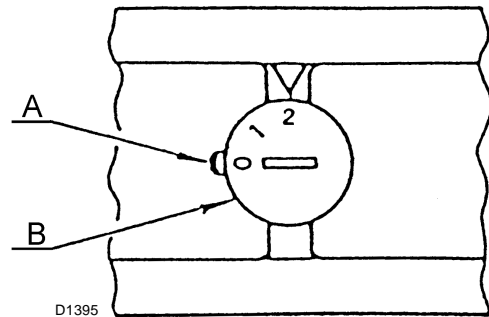

Fig. 33
- Lock-ring B)(Fig. 33) can be used to modify the throughput cross-section at minimum potential: